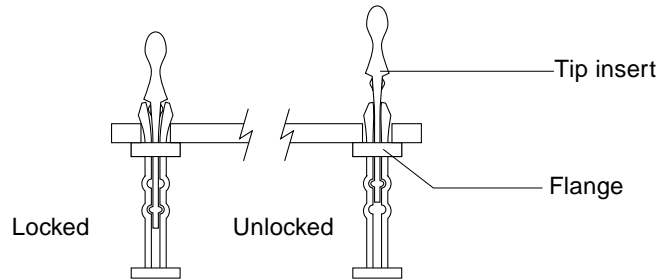

FIGURE 4-14 Locking and Unlocking Standoffs
Nylon standoffs lock the SBus and graphics (UPA) cards to the I/O+ boards (FIGURE 4-14).
4. Unlock the SBus card by pulling up the tips of the two standoff (FIGURE 4-14).
4. Unlock the tip insert of the two standoffs for the SBus slot (FIGURE 4-14).
4. Unlock the card by pulling up the tips of the two standoffs (FIGURE 4-14).
6. **Unlock the two standoffs for the UPA connector slot** (FIGURE 4-14).